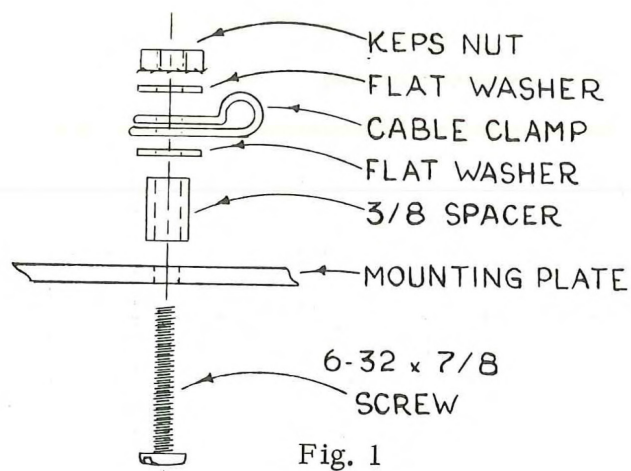

Fig. 1
- (2) white-orange white-black
- () 7. Dress the above wires upward and mount the cable clamp, as shown in Fig. 2, step 7. Use the hardware (from kit) shown in Fig. 1.